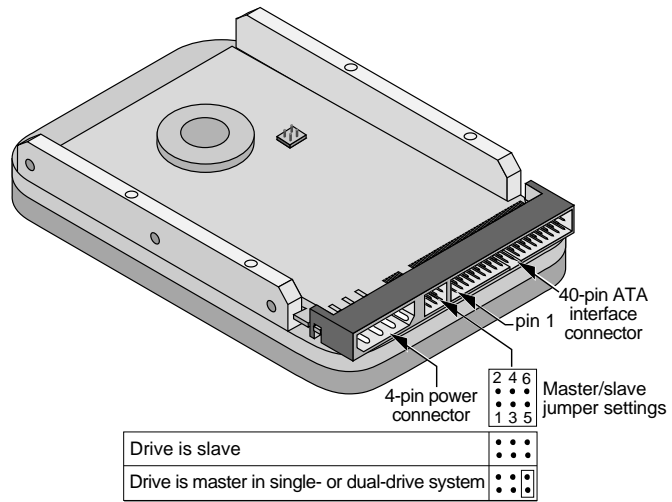

Figure 1. Master and slave jumper settings
- Place a jumper on pins 5 and 6 (see Figure 1 on page 5).